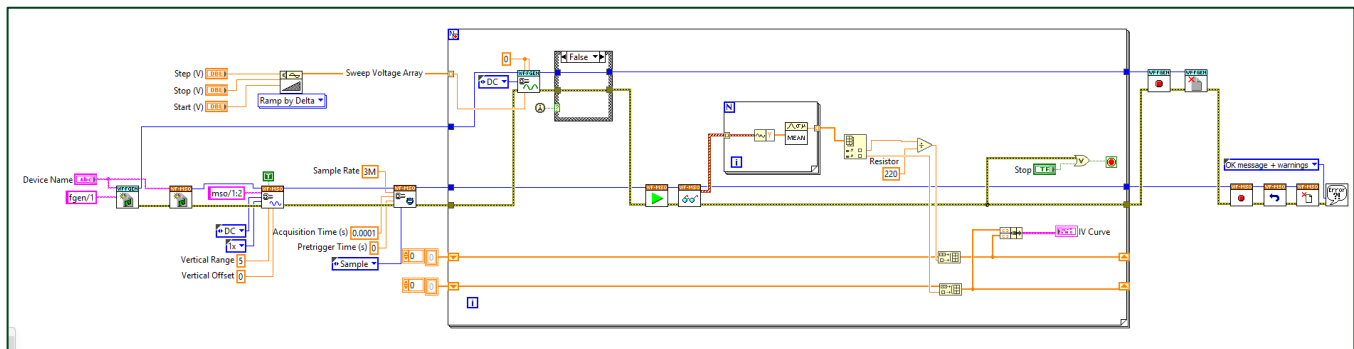

Figure 7. VI Block Diagram
- 2.1. Modify the block diagram as shown in **Figure 7**.
Figure 7 shows the LabVIEW block diagram used for automated **Solar/LED I-V curve** measurement. The VI generates the voltage sweep, reads the oscilloscope channels, calculates the current, and displays the measured I-V curve on the **XY Graph**.